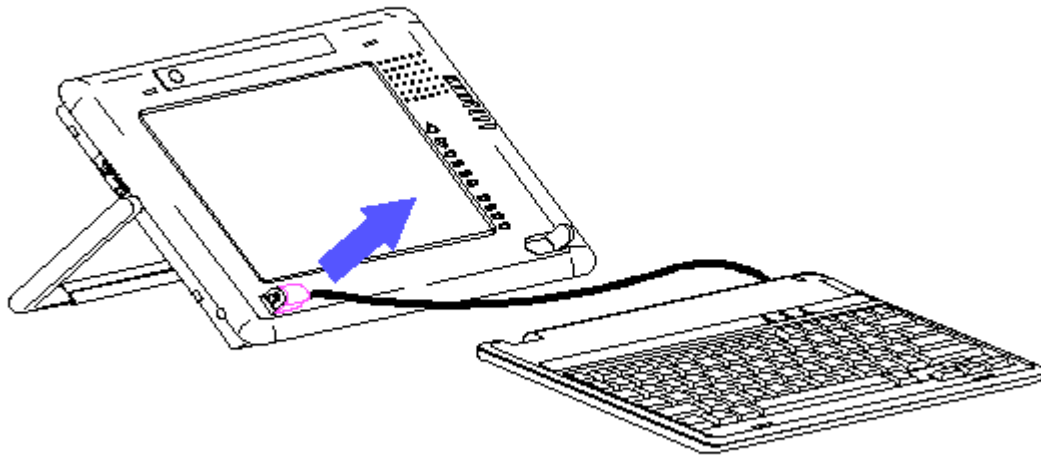

Figure 3-6. Disconnecting the Keyboard
- f. Disconnect the keyboard cable from the computer (Figure 3-6).